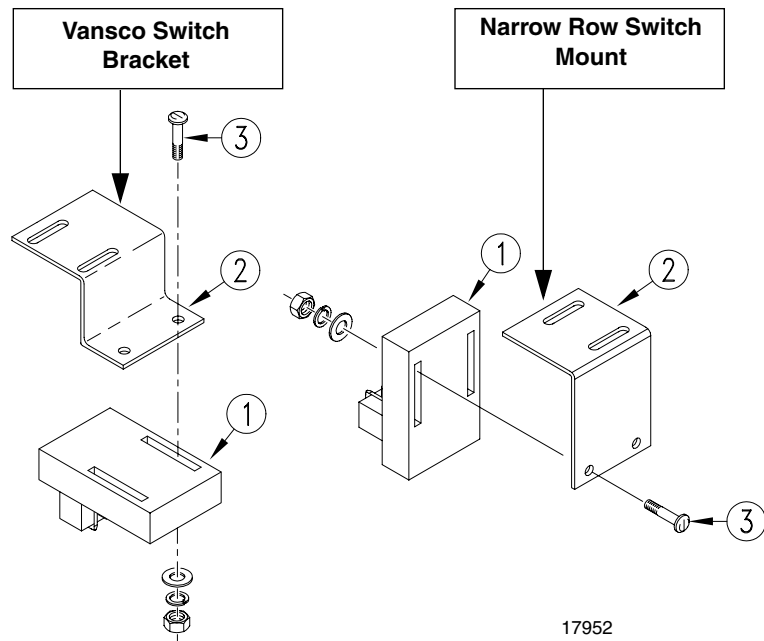

Figure 2
2. Refer to Figure 2. Mount switch (1) on bracket (2) with 1 1/2 - inch-long screws. Center switch on bracket. Secure screw with flat washers, lock washers and nuts.